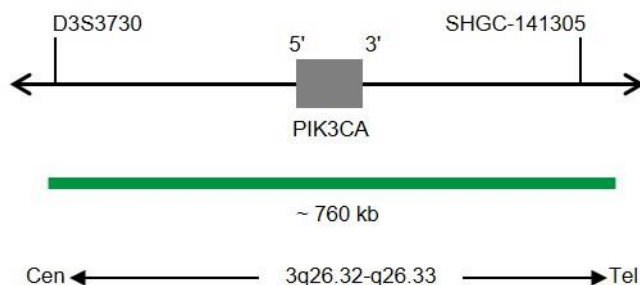

Fig. 1: SPEC PIK3CA Probe map (not to scale)
- ZyGreen (excitation 503 nm/emission 528 nm) labeled polynucleotides (~10 ng/ $\mu$ l), which target sequences mapping in 3q26.32-q26.33\* (chr3:178,535,986-179,293,464) harboring the PIK3CA gene region (see Fig. 1).